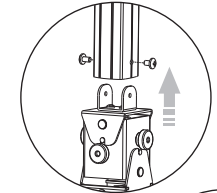
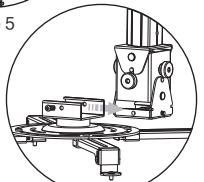

figure 5
figure 6
- 2 Connect the adjuster to GPCN Main Bar Overview, and then fasten the screws (accessory ②) as figure 5. Afterward, slide the Adjustment Overview (projector has been installed) to adjuster, and fasten the screws (accessory ③) as figure 6. Finally install the top cap to the main bar, and then invaginate the spring, as figure 7